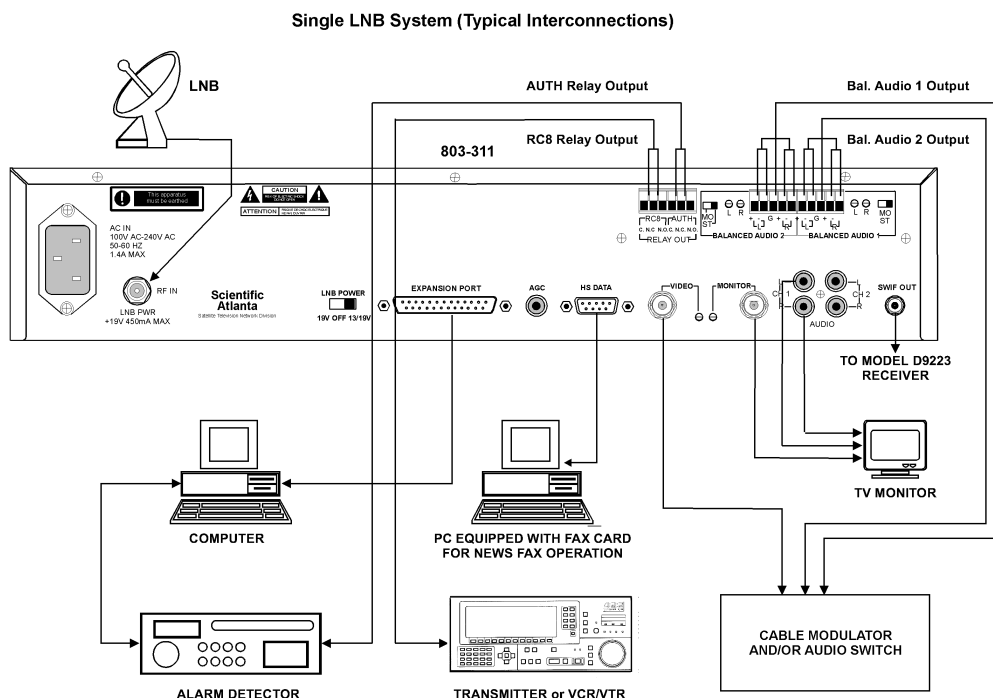

Figure 2-8. Typical single-LNB system interconnection
AUTH relay terminal contacts are controlled by the operating state of the receiver. Under normal operating conditions (i.e., receiver is authorized), the AUTH NC (Normally Closed) relay contact is open. If an alarm condition occurs (i.e., if AC power is disconnected or interrupted, or if loss of signal authorization takes place), the AUTH NC relay contact is closed, and the AUTH NO relay contact is opened. This NO terminal signal which indicates a change of operating state for the receiver can be used to activate remote alarm detection equipment connected between the NO and C terminals. When connecting external equipment to RELAY OUT, use the Normally Open (NO) and Common (C) terminals. For typical alarm relay connections between the receiver and other equipment, see Figure 2-8.
For a Single-LNB system, the vertically or horizontally polarized RF input signal from the satellite LNB is routed via RF coaxial cable to the RF IN rear panel connector. Other/optional connections can also be made (see “Receiver equipment interconnection” and “Optional connections”). Figure 2-8 shows a typical single-LNB system interconnection.